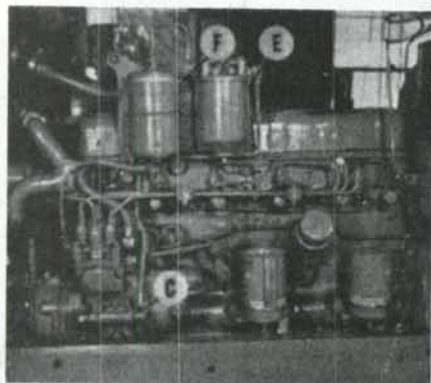

Fig. AC61 — Fuel filters and model PSB Bosch injection pump installation.
day, prior to starting the engine. The fuel then flows to the renewable element type primary filter (B). The drain cock (C) at the bottom of the primary filter should be opened and a small quantity of fuel drained each day, prior to starting the engine. From the primary filter, the fuel passes through the transfer pump (C—Fig. AC61) to the renewable element type intermediate filter (E). If any signs of water are apparent when draining fuel from the primary filter, a small quantity of fuel must be drained from the intermediate filter.